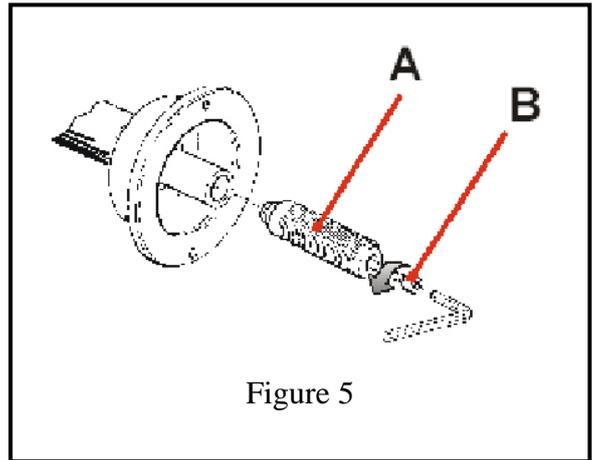

Figure 5
- Shaft . Take out the threaded end and bolts from the accessory case. Mount them firmly according to figure 5.